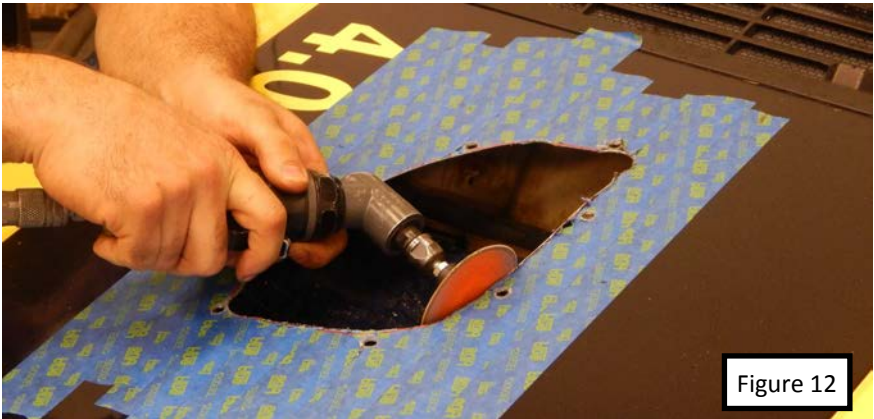

Figure 12
14. Open up the hole that was cut in the previous step until it matches the line traced onto the hood. Perform this step on both sides of the hood (Figure 12).